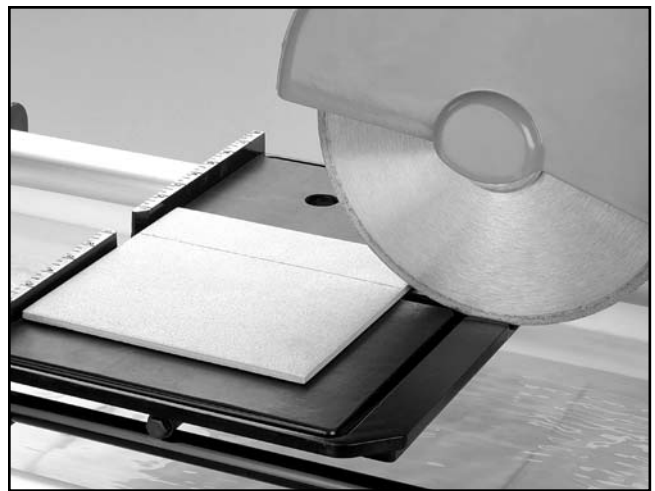

Figure 20. Cutting the tile.
2. Place one edge of the tile against the raised lip on the trailing edge of the table as shown in **Figure 20**.